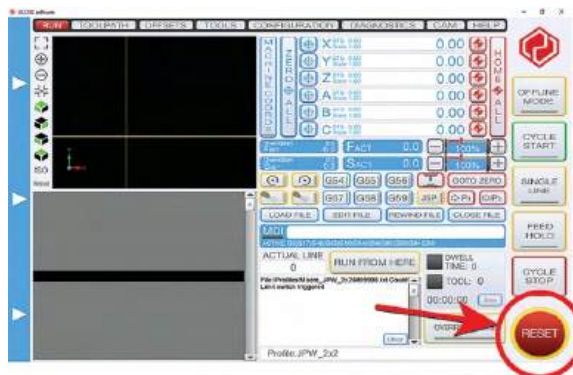

Figure 9-4
3. When the UCCNC application loads up, you should see a home screen as shown in Figure 9-4.